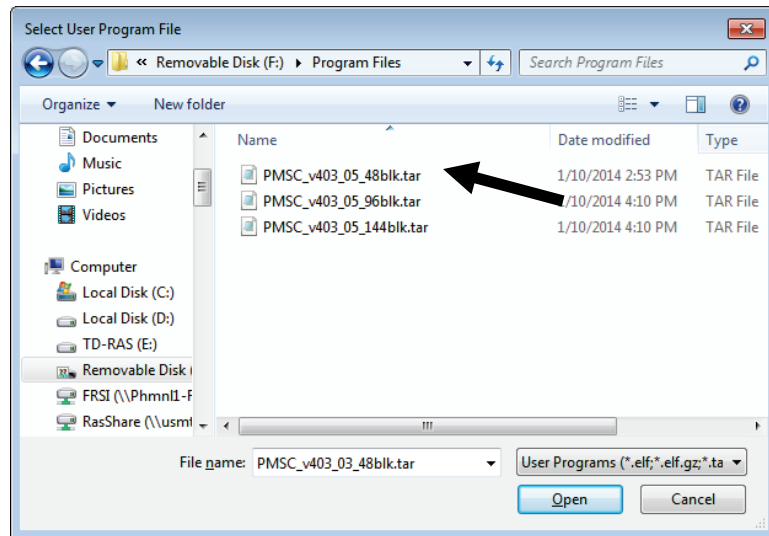

Figure 7. Select User Program File
4. Click **Browse** in the Download User Program File frame. The Select User Program File screen displays (see *Figure 7*).
5. Select the path and user program file to download from the CD-ROM. (Program files are typically located in the Program Files folder on the CD-ROM). As *Figure 7* shows, the screen lists all valid user program files with the **.tar** (for ROC800) or **.bin** (for FB107) extension: